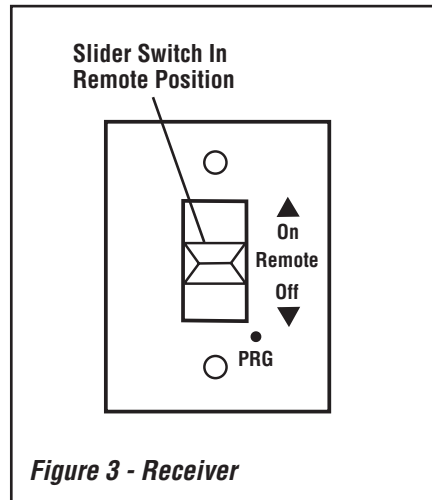

Figure 3 - Receiver
Place the ON/REMOTE/OFF switch in the REMOTE position (see **Figure 3** on **Page 10**). Insert the end of the paper clip (or other similar object) into the hole marked "PRG" on the receiver front cover. The control board, located in the fireplace, will "beep" three (3) times to indicate that it is ready to synchronize with a transmitter.